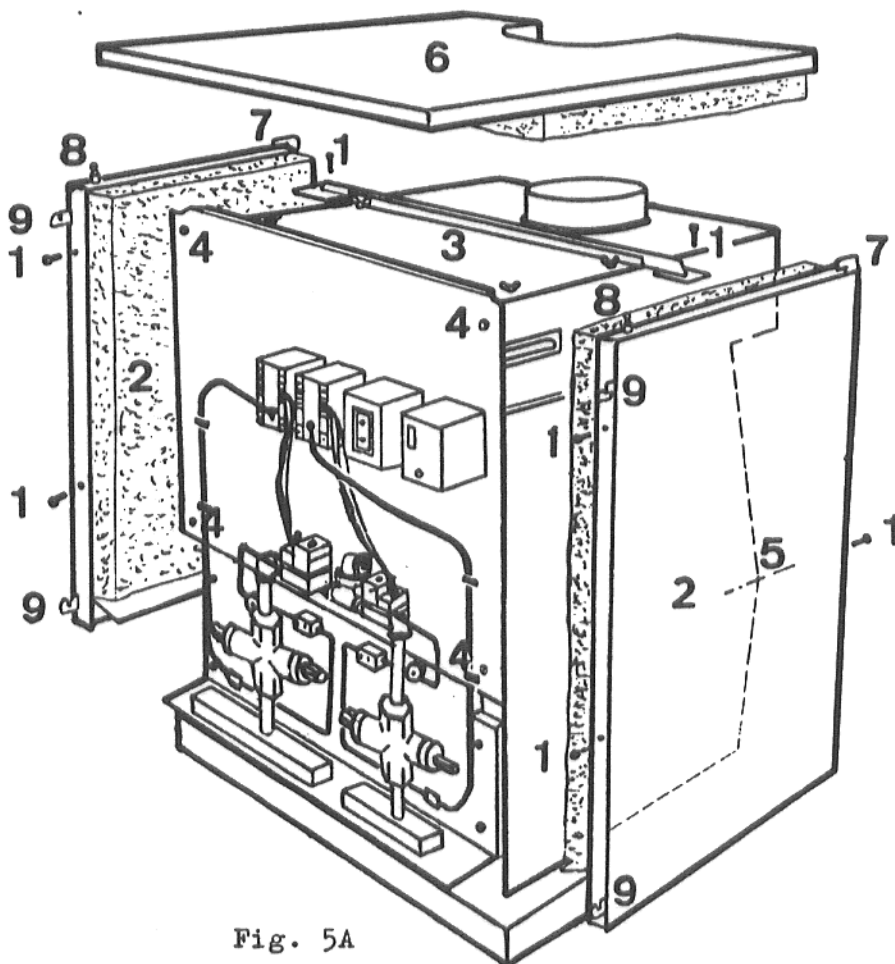

Fig. 5A
04.(33, 34)/55 up to 04.34/110 boilers are supplied with the sections assembled and palletised but with the boiler jackets and draught hood packed separately for on site assembly. Refer to Figure 5A for complete assembly.